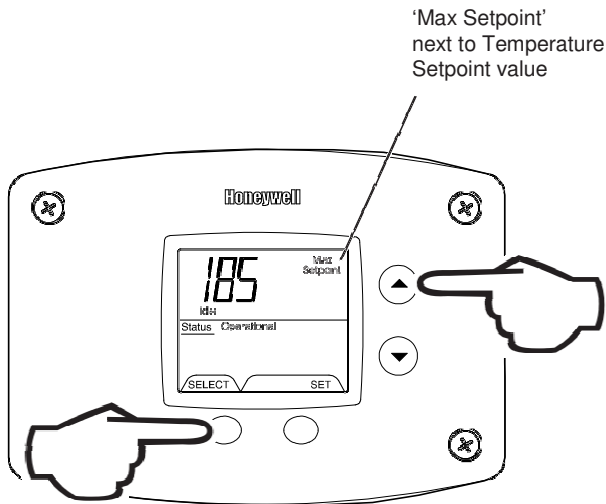

Fig. 26
1. Press 'Select' and 'Temperature Up' buttons together and hold for 3 seconds until 'Max Setpoint' is shown in the display (Fig. 26).